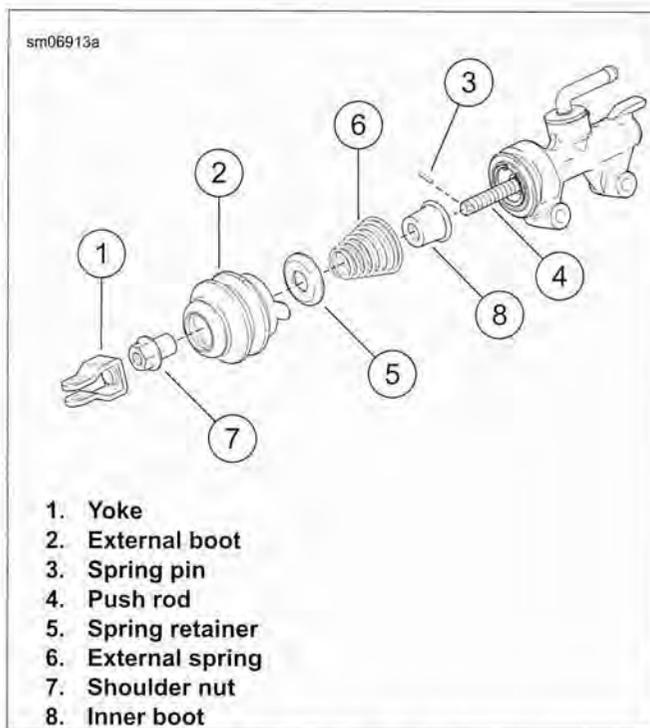

Figure 2-73. Rear Master Cylinder
1. See Figure 2-73. Clamp rear brake master cylinder in a vise with yoke (1) pointing up.
2. Remove external boot (2). Remove spring pin (3) from end of push rod (4). Discard spring pin.